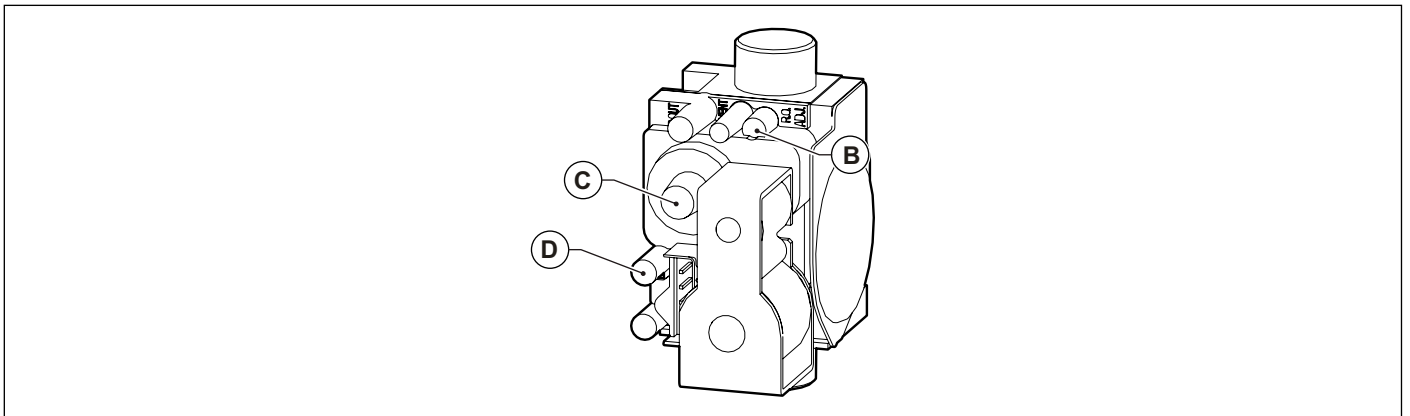

Fig. 35 Gas valve setting
- Set flue gas (CO₂) content by turning the ratio adjuster **B** (see Fig. 35 Gas valve setting) and ensure that reading falls within the limits of Tab. 33 Flue gas CO₂ rate.
- Set flue gas (CO₂) content by turning the offset adjuster **C** (see Fig. 35 Gas valve setting) and ensure that reading falls within the limits of Tab. 33 Flue gas CO₂ rate.
- Turn the ratio adjuster **B** (see Fig. 35 Gas valve setting) to set flue gas oxygen content (O₂) until it falls within the limits of the Tab. 34 Flue gas O₂ rate.
- Turn the offset adjuster **C** (see Fig. 35 Gas valve setting) to set flue gas oxygen content (O₂) and offset pressure until they both fall within the limits of the Tab. 34 Flue gas O₂ rate.